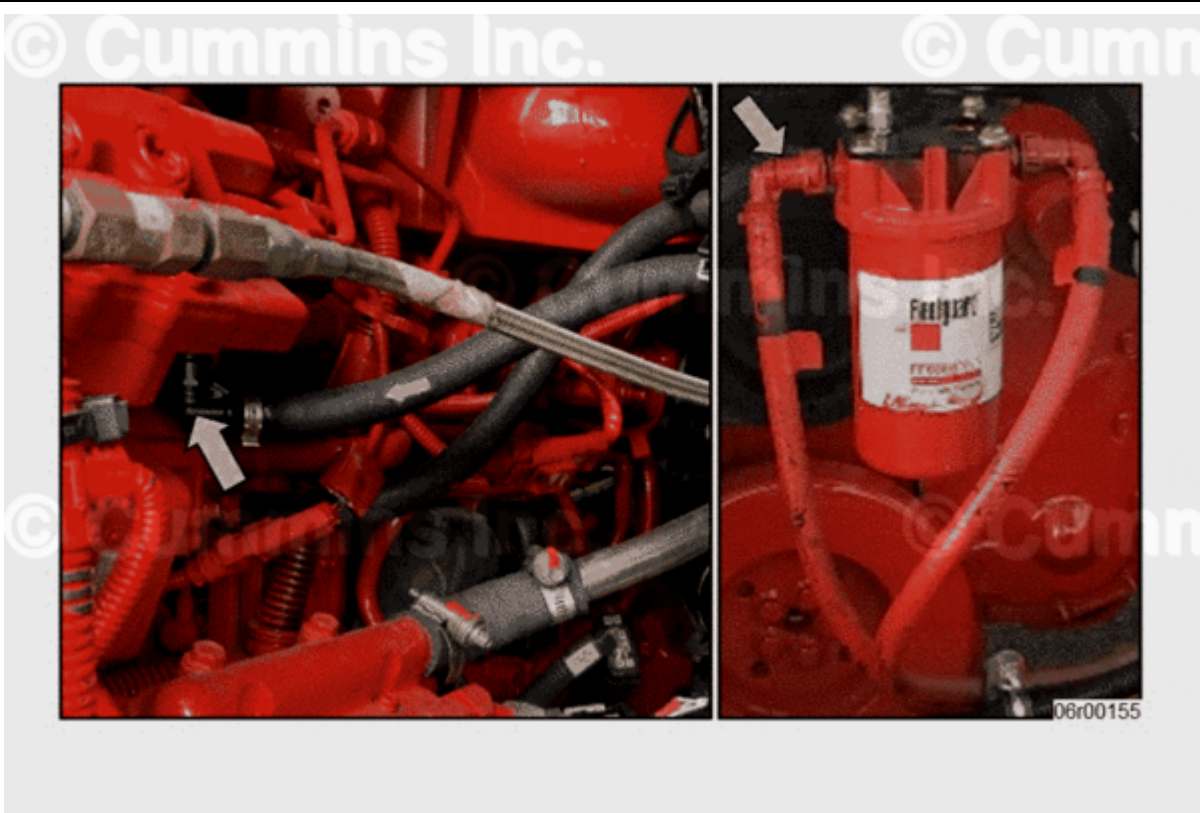

Figure 2, Indication of Fuel Pump Inlet and Fuel Filter Outlet Quick Connect Fitting Locations.
- Figure 2 below indicates the fuel filter head outlet and fuel pump inlet connection points.